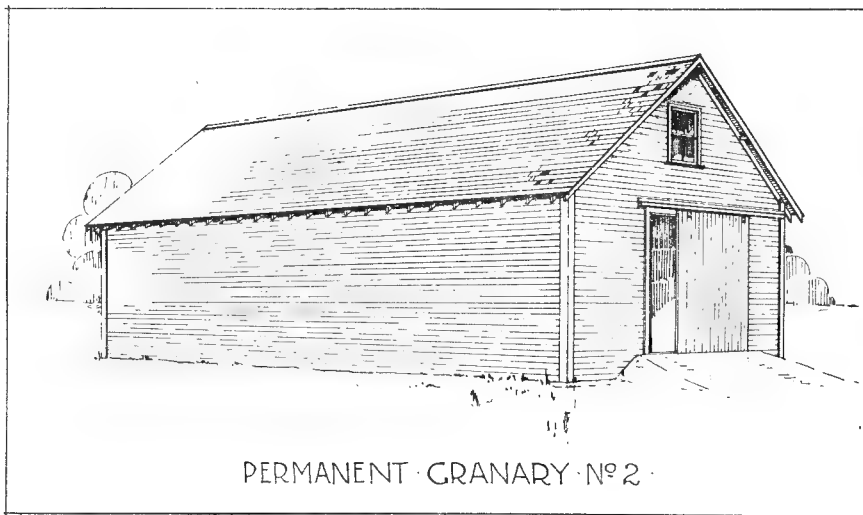

Figure 7. Dirty grain causes a loss of millions of dollars annually to the farmers of Western Canada. In a permanent granary the grain can be cleaned at home.
**PERMANENT GRANARY No. 2. FIGURES 7 AND 8.**